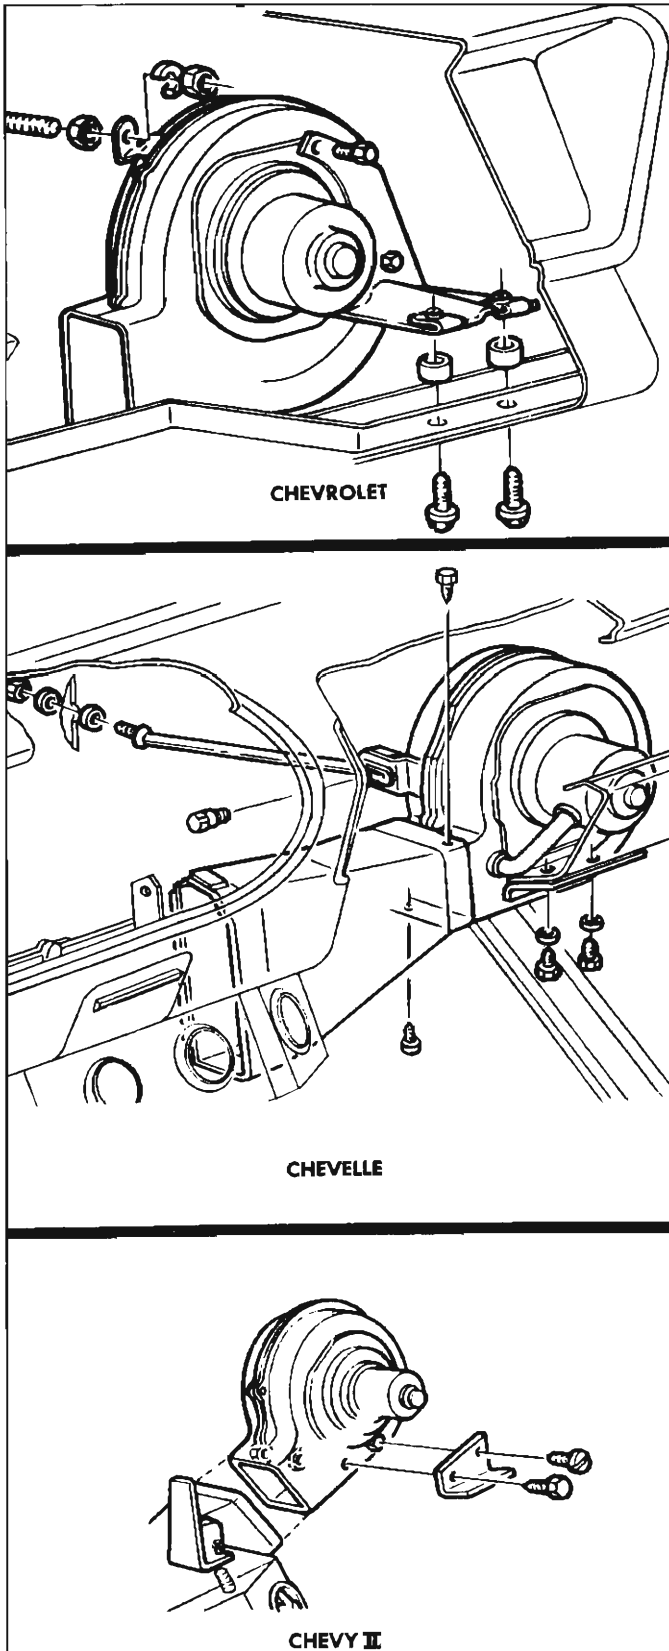

Fig. 63—Blower Assembly—Custom Systems
2. Remove the two bolts attaching the blower bracket to the instrument panel flange and the bolt attaching the blower motor to the dash panel bracket (fig. 63).